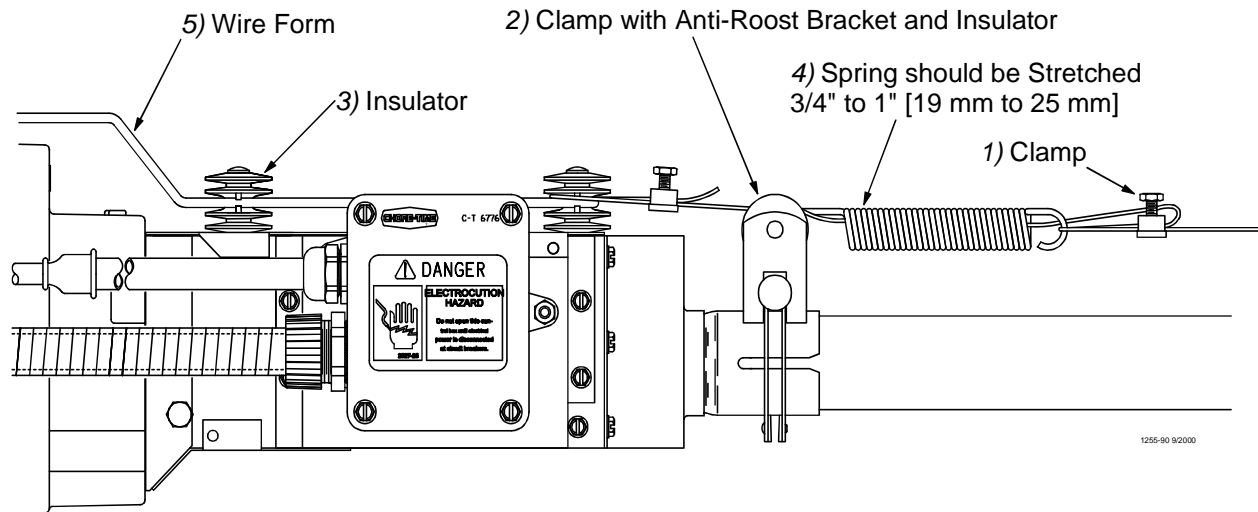

Figure 40. Anti-Roost Installation at the Control Unit
9. At the control unit, after clamping the cable to the spring, cut the cable about 8" to 10" [200 to 250 mm] longer than necessary. Feed the end of the cable through the center of the spring, around the first insulator on the control unit, and clamp the cable using the cable clamp supplied with the control unit. See **Figure 40**.
10. Install the wire form on the control unit insulators. Be sure the guard snaps into the retainers molded into the insulators. See **Figure 40**.